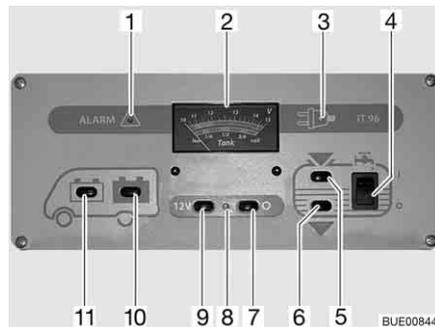

Fig. 158 Panel IT 96-2
The 12 V main switch (Fig. 158,7 and 9) switches the panel and the 12 V power supply to the living area on and off.
*Switching on:* ■ Press switch (Fig. 158,9) "12 V": The 12 V living area power supply is switched on. The indicator lamp (Fig. 158,8) lights up green.
*Switching off:* ■ Press switch (Fig. 158,7) "O": The 12 V living area power supply is switched off. The indicator lamp (Fig. 158,8) goes out.
With the V/tank gauge (Fig. 158,2), note the top scale. The gauge automatically lights up as soon as a switch is pressed.
- Press switch (Fig. 158,11) "": The battery voltage of the starter battery is displayed.
- Press switch (Fig. 158,10) "": The battery voltage of the living area battery is displayed.
The V/tank gauge is for the indication of the quantity of water or waste water. With the V/tank gauge (Fig. 158,2), use the bottom scale. The gauge automatically lights up as soon as a switch is pressed.
- Press switch (Fig. 158,5) "": The volume of water is displayed.
- Press switch (Fig. 158,6) "": The volume of waste water is displayed.
*Switching on:* ■ Press the upper part of the rocker switch (Fig. 158,4) "I": The water supply is ON.
*Switching off:* ■ Press the lower part of the rocker switch (Fig. 158,4) "O": The water supply is OFF.
The red "ALARM" warning light (Fig. 158,1) flashes as soon as the voltage of the living area battery falls below 11 V (measured under operation) and there is a risk of a total discharge.
The 12 V indicator lamp (Fig. 158,8) illuminates whenever the 12 V main switch (Fig. 158,9) is switched on.
The yellow 230 V indicator lamp (Fig. 158,3) illuminates whenever line voltage is available at the transformer/rectifier input.